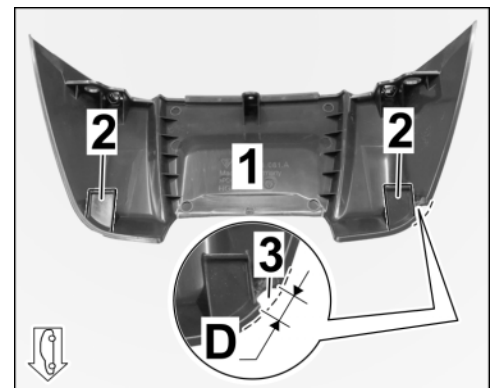

Figure 5
1.6 Make groove for wire harness for retainer plate in cover on antenna (⇒ *Figure 5*).